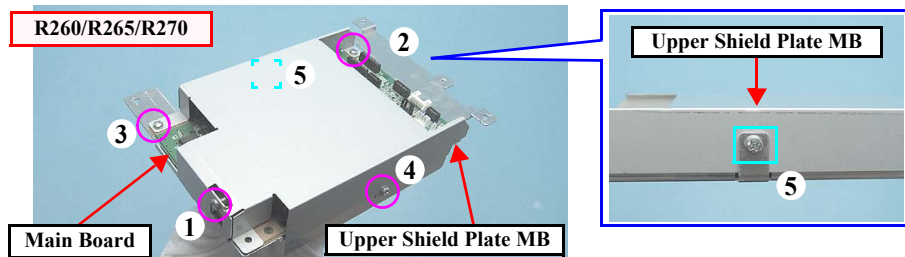

Figure 4-62. Removing the Upper Shield Plate MB (R260/R265/R270)
- Screw the Upper Shield Plate MB of the R260/R265/R270 in the order given in Fig.4-62.